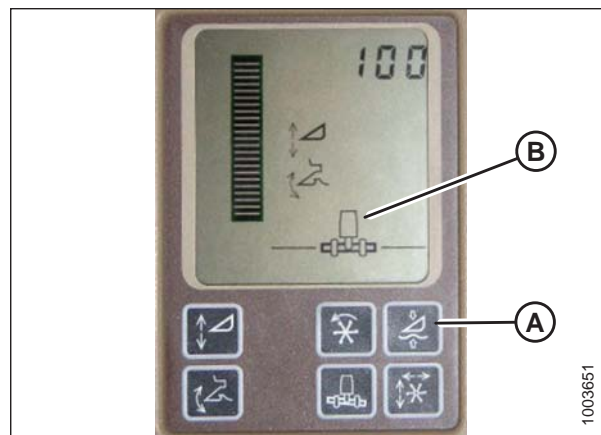

Figure 6.53: John Deere Combine Display
Do **NOT** use active header float function (A) in combination with MacDon auto header height control (AHHC)—the two systems will counteract one another. The header symbol (B) on display should **NOT** have a wavy line under it and should appear exactly as shown on Active Header Control Display in Figure 6.53, page 95.